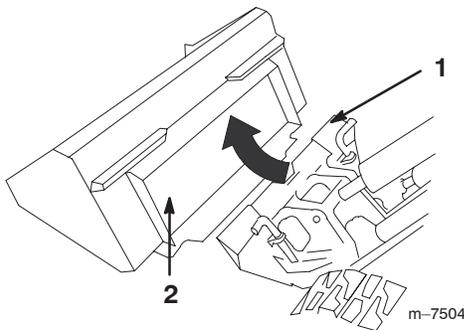

Figure 23
- Position mount plate into the upper lip of the attachment receiver plate (Fig. 23).